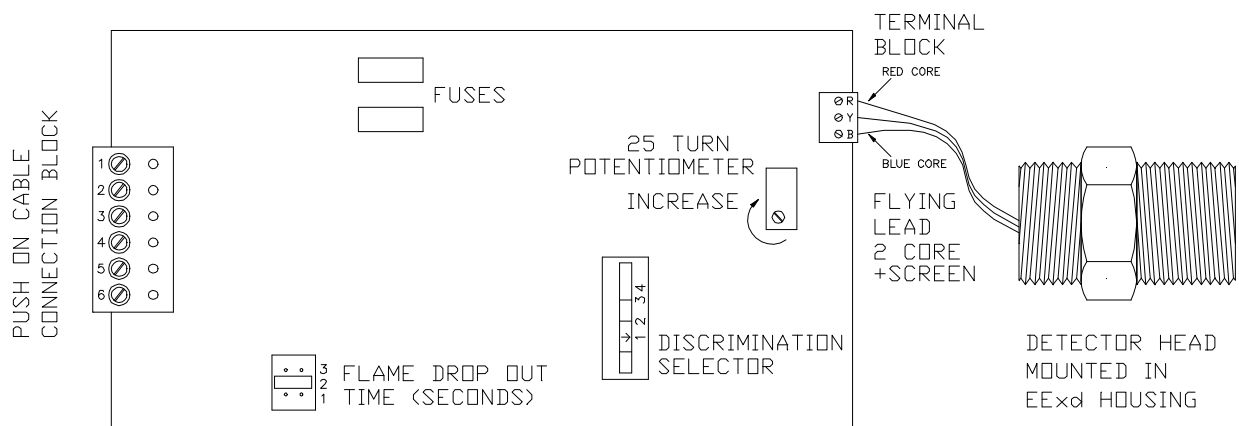

FIG. 1 IRIS UNISCAN - PCB BOARD AND DETECTOR HEAD ASSEMBLY
To remove the card completely, just unplug the detector plug (Fig. 1) - but please note that it is a polarised plug and socket.
1. With the subject flame off, turn the 25 turn potentiometer (Fig. 1) clockwise to increase the gain, but not so far that the unit indicates flame on. Place the discrimination switch in POS.1 (Fig. 1).